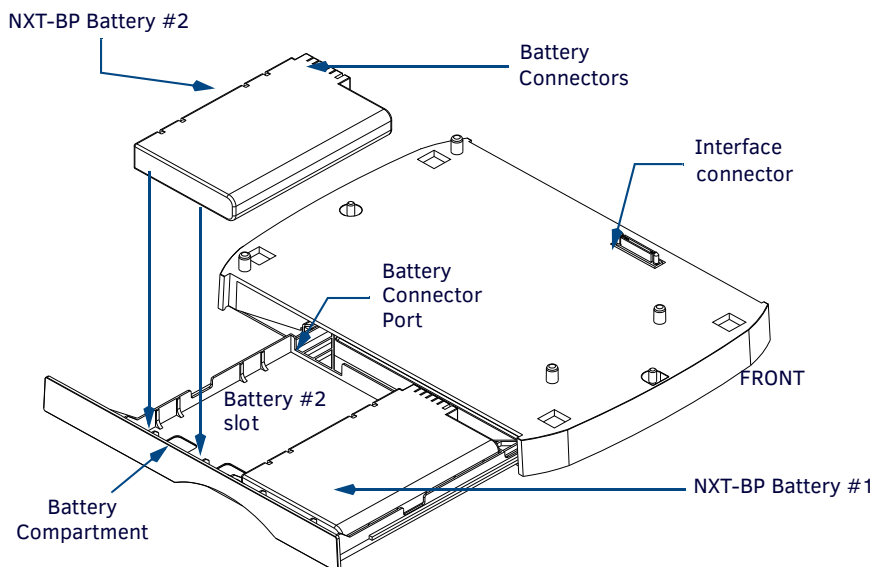

FIG. 30 Battery installation procedure
1. With the panel mounted on the battery base, open the battery compartment (FIG. 30) by pulling the handle outwards. This compartment houses two NXT-BP batteries.
3. Align the battery connectors with the corresponding battery connector port (located inside the battery compartment), as shown in FIG. 30.
2. Insert each battery into the battery compartment shown in FIG. 30.